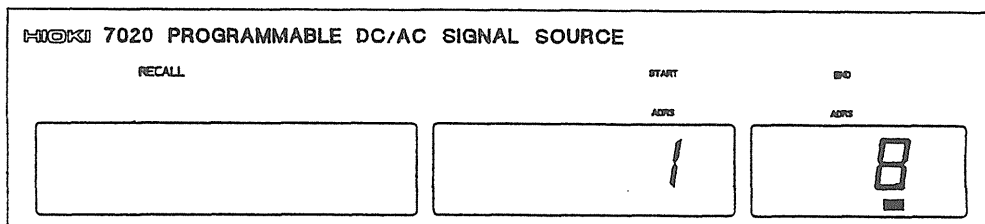

Fig. 5-3 Recall Start and End Addresses
- ② The start and end addresses will be displayed as shown in Fig. 5-3. Set the range to be recalled.
- ③ Press the RECALL key again. Data in the first address selected at step ② will be recalled, displayed and output.